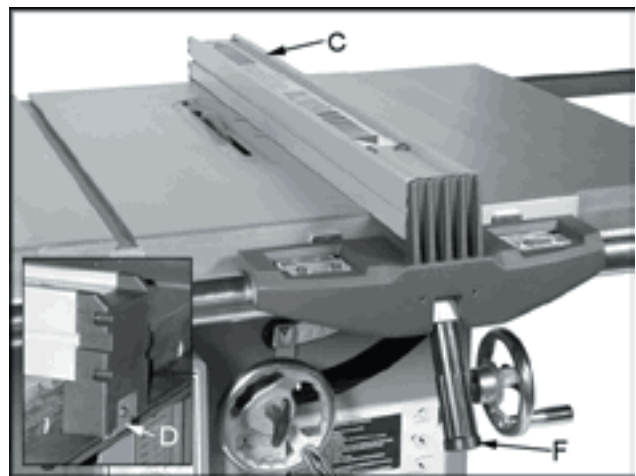

Figure 8
1. Tilt rear end of the fence (C, Figure 8) down to engage clip (D, Figure 8) on to the rear rail and lower the fence on to guide rail, as shown in Figure 8.
2. Move the fence so that the line on the cursor (E, Figure 9) reads 2" and lock the fence in place by pushing down on the handle (F, Figure 8).